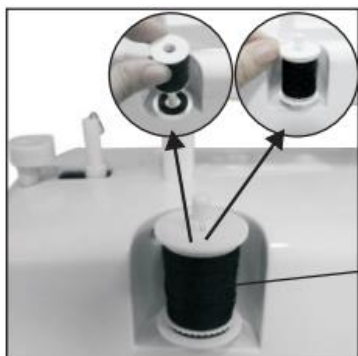

Fig. 11
1. Put a spool of thread on spool wing. (Fig. 11)